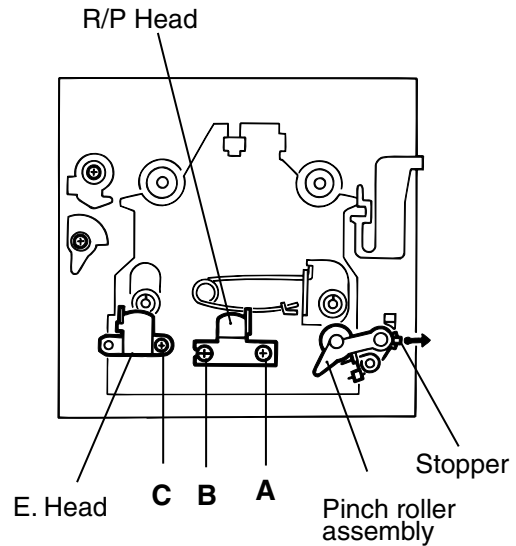
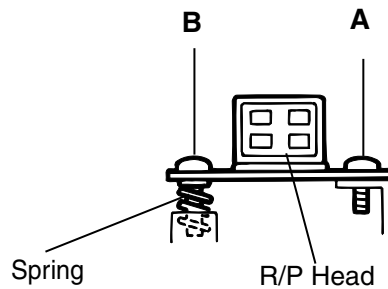

Fig.1
Fig.2
■ Removing the pickup unit. (See Fig.1)
■ Removing the motor board. (See Fig.2)
■ Removing the feed motor. (See Fig.1)
1. Remove the screw **A** on the right side of the R/P head.(Fig.1, Fig.2)
2. Remove the screw **B** on the left side of the R/P head.(Fig.1, Fig.2)
Remove the screw **C** fixing the erase head.(Fig.1)